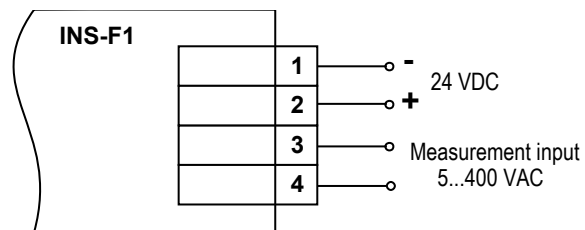

Fig. 3
- Connect the leads of the supply and measuring voltage according to Fig. 3 to the device.